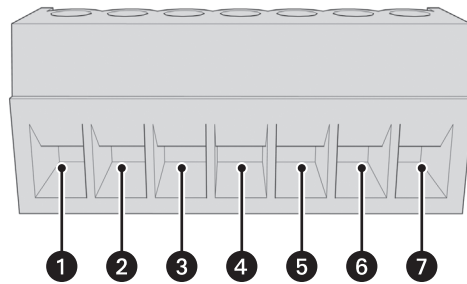

Figure 5. Wiring to the Detachable Connector
- ① Detachable Connector
- ② BNC Connector
- ③ DIP Switch
- ④ Ground Cable
- Connect the input power wiring for either 24 VDC or 24 VAC to the screw terminals for pins 6 and 7 on the detachable connector (refer to Figure 5).
4. Connect the input power wiring for either 24 VDC or 24 VAC to the screw terminals for pins 6 and 7 on the detachable connector (refer to Figure 5 on page 11).